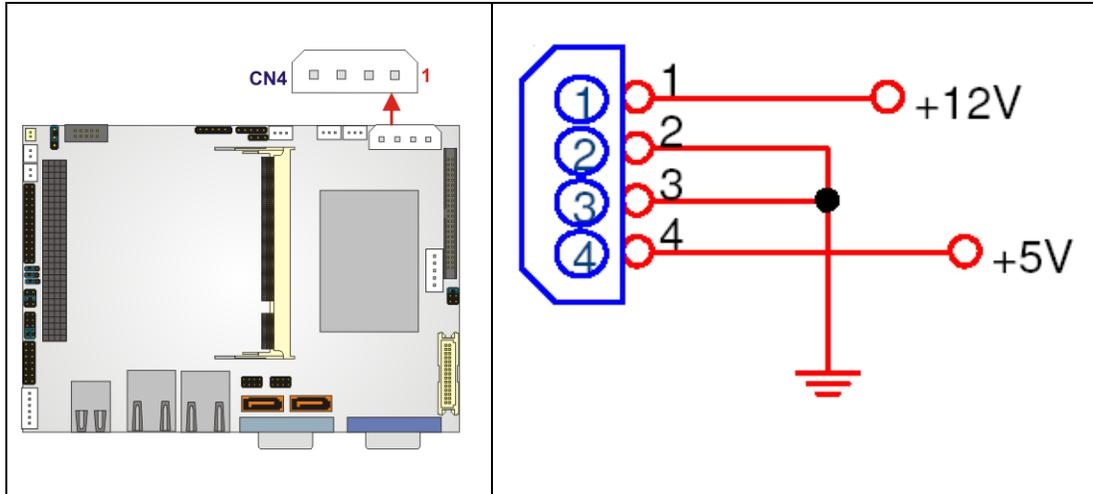

Figure 3-5: AT Power Connector Location
- CN Location:** See **Figure 3-5**